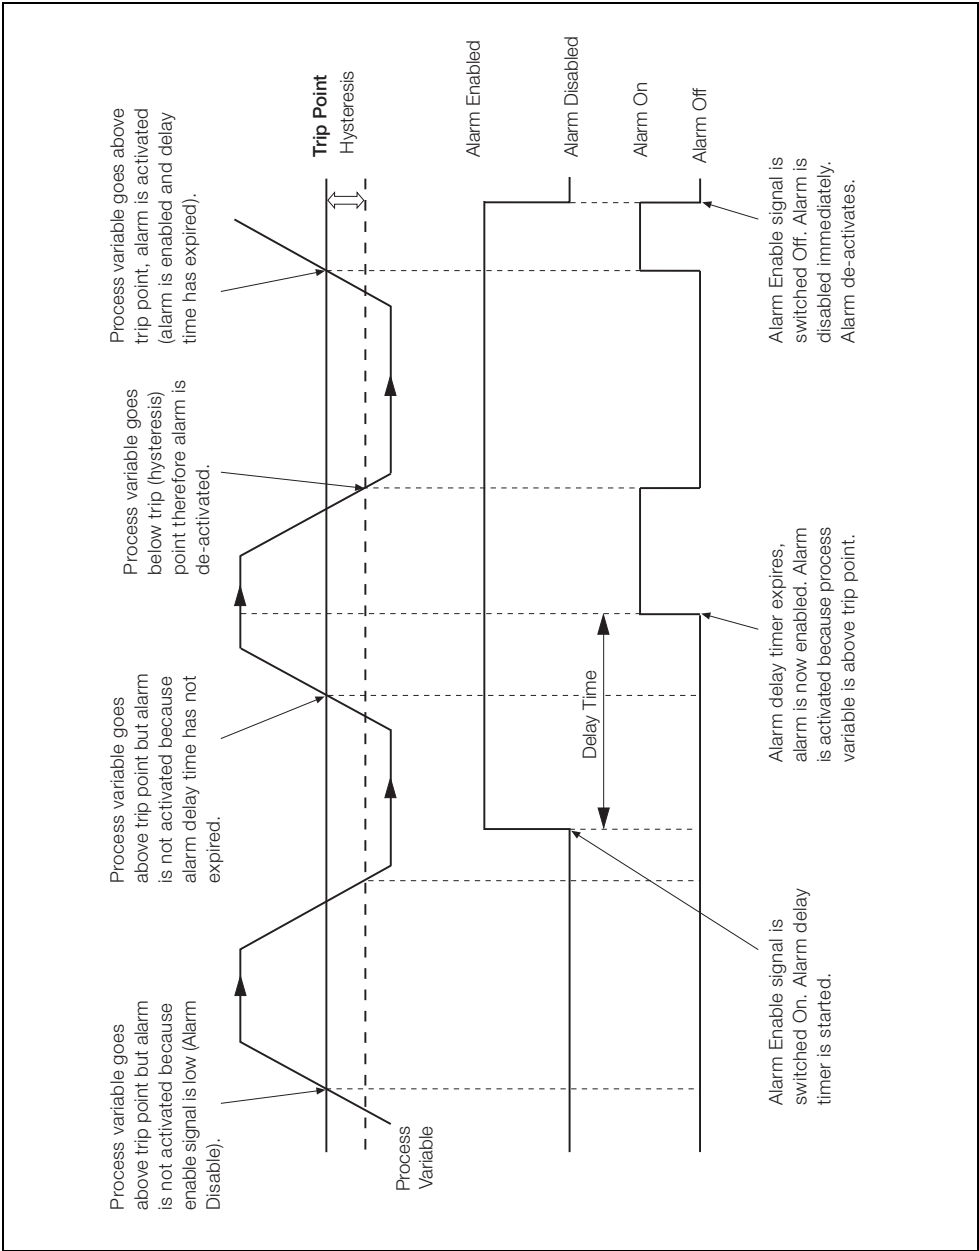

Fig. 7.15 Delayed High/Low Process Alarms
- Delayed high/low process – see Fig. 7.15, page 103
Note. Delayed process alarms only – see Fig. 7.15, page 103.
Note. For Delayed Process alarm operation, see Fig. 7.15, page 103.